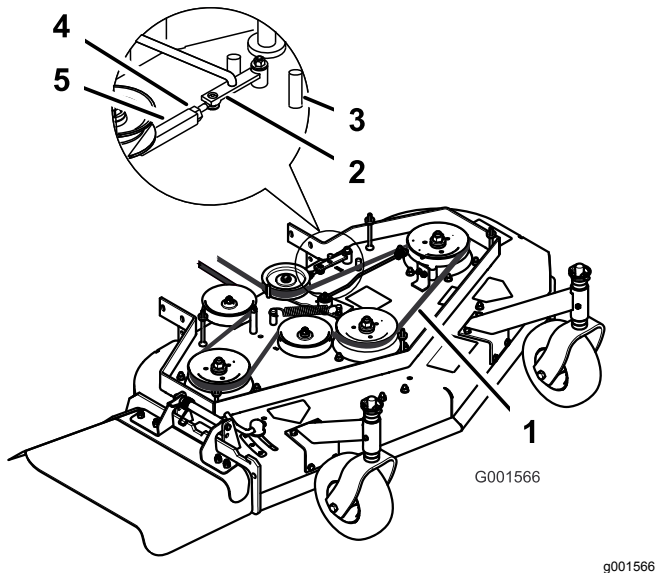

Figure 44
3. Loosen the locknut on the turnbuckle (Figure 44).
13 mm (1/2 inch) halfway between the pulleys (Figure 44).